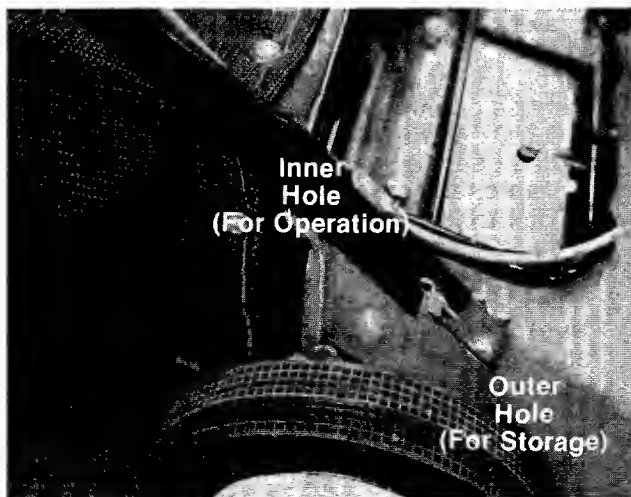

FIGURE 3.
- ← There are two (2) holes in the handle mount brackets. Place hairpin cotter in the inner hole for operation. The outer hole is for storage. See figure 3.